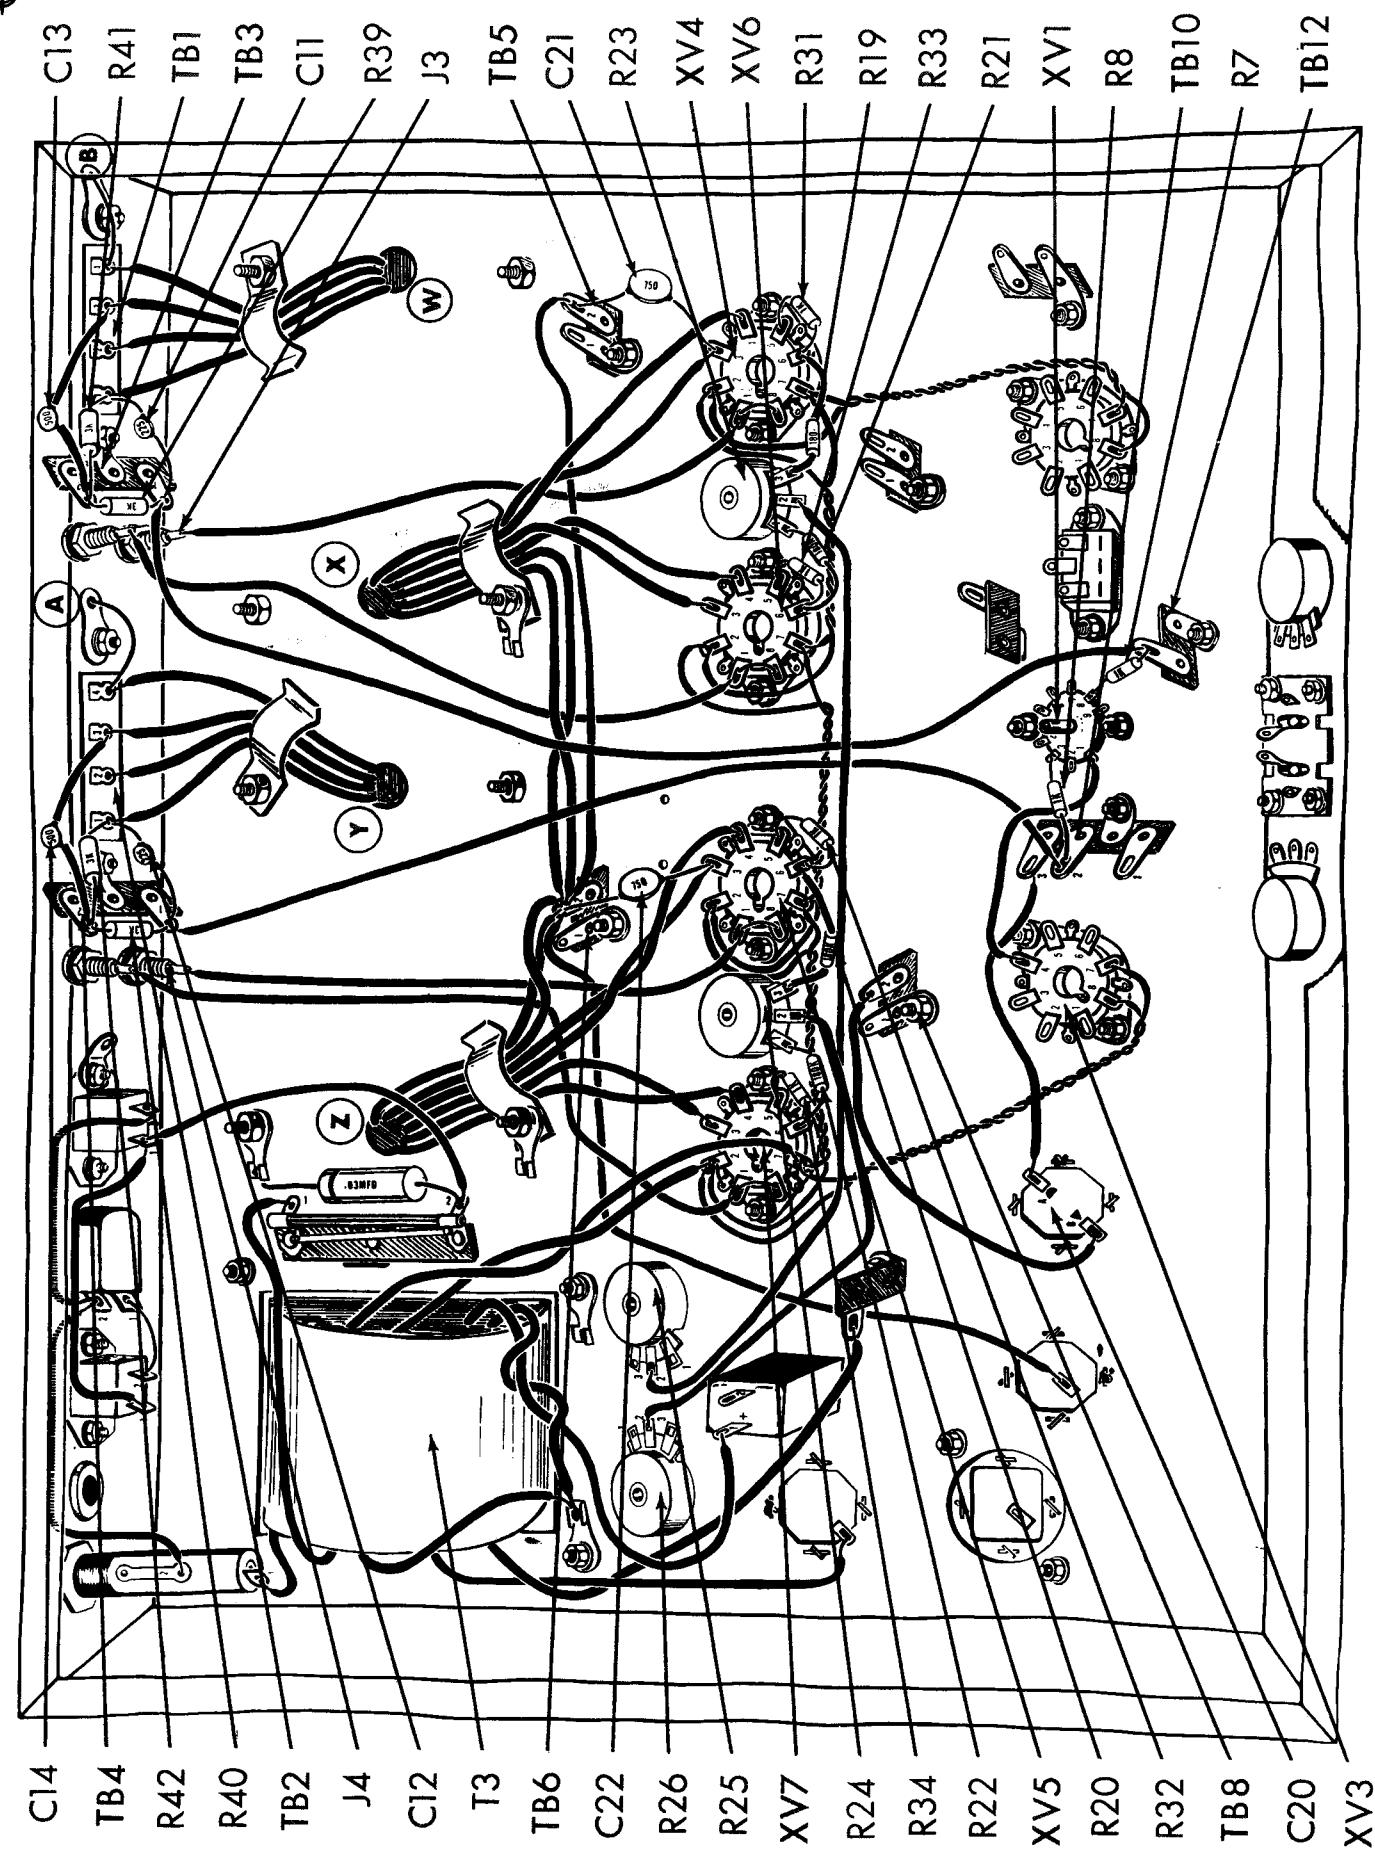

Fig. 4
- ( ) 1. Fig. 4. Connect an 7" piece of yellow wire from XV5-1 (C) to J4 (S1).
- ( ) 2. Fig. 4. Connect an 7" piece of yellow wire from XV4-1 (C) to J3 (S1).
- ( ) 3. Fig. 4. From power transformer T3 twist the two green leads together. Run them along the chassis as shown. Connect the shorter green lead to XV7-2 (S4) and the other green lead to XV7-7 (S3). Dress the green leads away from RS1 so that the spring contact has free action.
- ( ) 4. Fig. 4. Connect a 1/2" piece of bare wire from TB2-4 (C) to ground lug "A" (S1).
- ( ) 5. Fig. 4. Connect a 1 1/2" piece of bare wire from TB1-4 (C) to ground lug "B" (S1).
- ( ) 6. Fig. 4. From hole "W", the leads have been run under cable clamp #3. Connect the black lead to TB1-4 (S2), the white lead to TB1-3 (C), the green lead to TB1-2 (S1) and the yellow lead to TB1-1 (C).
- ( ) 7. Fig. 4. From hole "Y", the leads have been run under cable clamp #4. Connect the black lead to TB2-4 (S2), the white lead to TB2-3 (C), the green lead to TB2-2 (S1) and the yellow lead to TB2-1 (C).
- ( ) 8. Fig. 4. Connect a 7" piece of red wire from TB6-2 (C) to TB5-2 (C).
- ( ) 9. Fig. 4. The leads from hole "Z" have been run under cable clamp #1. Run the leads from cable clamp #1 as shown. Connect the red and red-yellow leads to TB6-2 (C), the brown lead to XV5-3 (C), the brown-yellow lead to XV5-4 (S1), the blue lead to XV7-3 (S1) and the blue-yellow lead to XV7-4 (S1).
- ( ) 10. Fig. 4. The leads from hole "X" have been run under cable clamp #2. Run these leads from cable clamp #2 along the chassis as shown. Connect the red and red-yellow leads to TB6-2 (C), the brown-yellow lead to XV4-3 (C), the brown lead to XV4-4 (S1), the blue lead to XV6-3 (S1) and the blue-yellow lead to XV6-4 (S1).
- ( ) 11. Fig. 4. Cut all leads on four 3K (orange, black, red, gold) 5% resistors, R39, R40, R41 and R42, to 3/4". Connect R39 from TB3-1 (C) to TB3-2 (C). Connect R40 from TB4-1 (C) to TB4-2 (C). Connect R41 from TB1-1 (C) to TB3-2 (C). Connect R42 from TB2-1 (C) to TB4-2 (C).
- ( ) 12. Fig. 4. Cut all leads on two 225mmf disc capacitors, C11 and C12 to 3/4". Connect C11 from TB1-1 (S3) to TB3-1 (C). Connect C12 from TB2-1 (S3) to TB4-1 (C).
- ( ) 13. Fig. 4. Cut all leads on two 500mmf disc capacitors, C13 and C14, to 1". Cover each lead with a 3/4" piece of spaghetti. Connect C13 from TB1-3 (S2) to TB3-2 (S3). Connect C14 from TB2-3 (S2) to TB4-2 (S3).
- ( ) 14. Fig. 4. Connect an 11" piece of gray wire from TB3-1 (S3) to TB12 (C).
- ( ) 15. Fig. 4. Connect an 10" piece of gray wire from TB4-1 (S3) to TB10-2 (C).
- ( ) 16. Fig. 4. Cut all leads on two 750mmf disc capacitors, C21 and C22 to 1". Connect C21 from TB5-2 (S2) to XV4-3 (S2). Connect C22 from TB6-2 (S7) to XV5-3 (S2).
- ( ) 17. Fig. 4. Connect an 11 1/2" piece of orange wire from R25-2 (S1) to R23-2 (C).
- ( ) 18. Fig. 4. Connect a 5 1/2" piece of orange wire from R26-2 (S1) to R24-2 (C).
- ( ) 19. Fig. 4. Connect a 4" piece of green wire from XV3-4 (C) to XV1-1 (S1).
- ( ) 20. Fig. 4. Cut all leads on six 1K (brown, black, red, silver) resistors R7, R8, R31, R32, R33 and R34 to 1/2". Connect R7 from TB12 (C) to XV1-8 (C). Connect R8 from TB10-2 (C) to XV1-3 (C). Connect R32 from XV5-5 (S1) to XV5-6 (C). Connect R34 from XV7-5 (S1) to XV7-6 (C). R33 from XV6-5 (S1) to XV6-6 (C) and R31 from XV4-5 (S1) to XV4-6 (C).
- ( ) 21. Fig. 4. Cut all leads on two 180K (brown, grey, yellow, silver) resistors, R19 and R20 to 1". Connect R21 from XV6-6 (C) to R23-1 (C). Connect R22 from XV7-6 (C) to R24-1 (C).
- ( ) 22. Fig. 4. Cut all leads on two 180K (brown, grey, yellow, silver) resistors, R19 and R20 to 3/4". Connect R21 from XV4-6 (C) to R23-1 (C). Connect R20 from XV5-6 (C) to R24-3 (C).
- ( ) 23. Fig. 4. Connect a 5" piece of orange wire from C20-B (C) to TB8-2 (C).